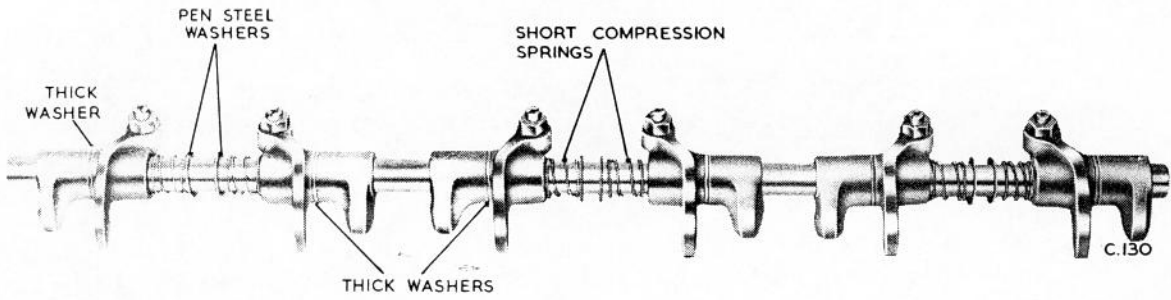

Fig. 23 Fitting inlet rocker spindle assembly (Stage 1)
3. Lubricate the inlet and auxiliary rockers then fit them with their compression (short) springs and washers to the inlet rocker spindle; this spindle can easily be identified by the twelve oil holes drilled to align with the auxiliary rockers and rockers. Both the rockers and auxiliary rockers are numbered in sequence and should be fitted to the spindle as detailed below and shown in Fig. 23. Note that the front end of the spindle carries the dowel hole which is larger than the oil feed hole at its rear end.
4. With the front end of the spindle to the left, fit No.1 L.H. auxiliary rocker to the location shown in Fig.23 then thread the remaining parts over the right-hand end of the spindle in the following order.